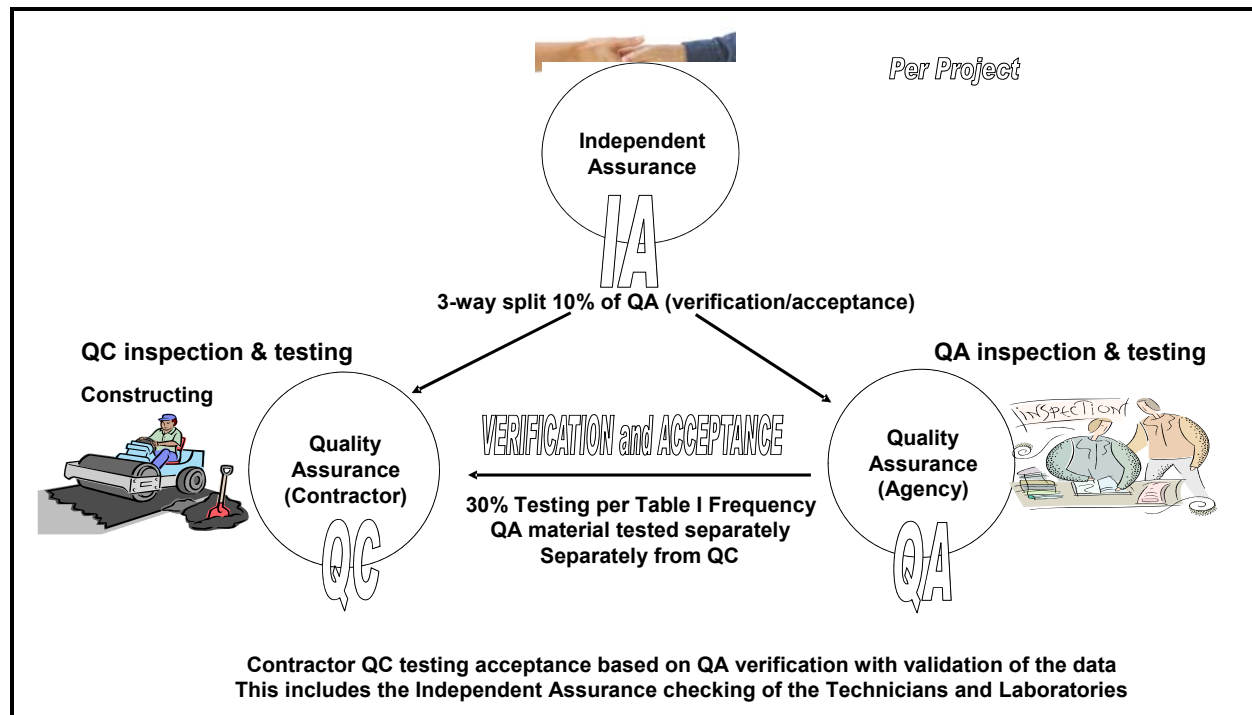

Figure 2- Example of Quality Control, Quality Assurance and Independent Assurance Relationship for the Project Approach
- (a) The project approach requires testing to be performed on the project for a frequency of 10% of the required non-structural and 30% of the structural materials of the required Quality Assurance testing for each test method used on the project as exemplified in Figure 2.